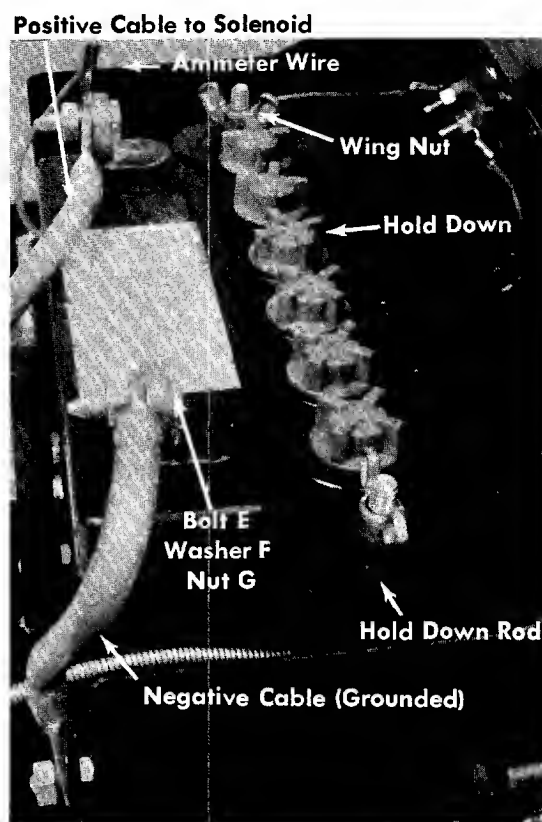

FIGURE 4. INSTALLING THE BATTERY
- b. Place the battery with the terminals to the FRONT in the battery case. See figure 4.